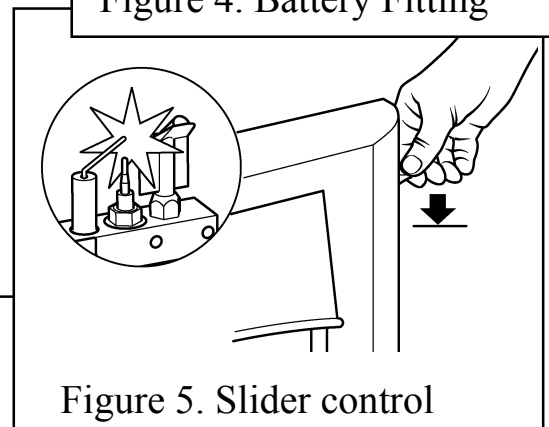

Figure 5. Slider control
- Depress the slider as far as it will go. This should close the ignition circuit. Sparks should be seen tracking from the electrode pin to the thermocouple tip. See figure 5.